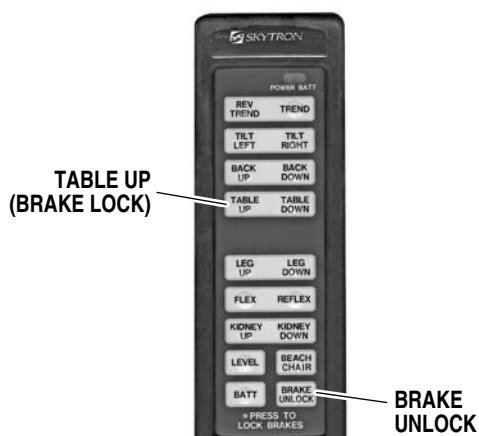

Figure 2-5. Brake System Activation
a. Floor Lock/Brake System. To activate the brakes without affecting table positioning, press the TABLE UP button. See figure 2-5. The elevation cylinder will not function until the brakes are completely extended.
Press the BRAKE UNLOCK button on the pendant control to release the four self-leveling brake feet in order to move the table. See figure 2-5. The brake delay circuit automatically retracts the brake system. It takes approximately 7-8 seconds to totally release the system.